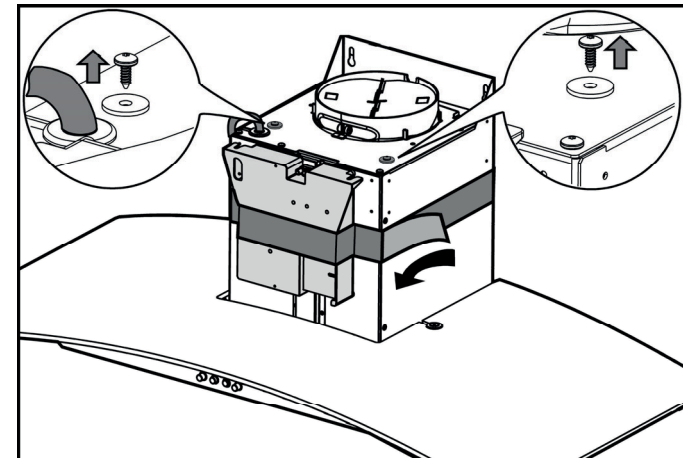

Figure 3 (non-contractual visual)
3. Make sure the electrical junction box is secured as shown in Figs. 3, 4 and 5 below: